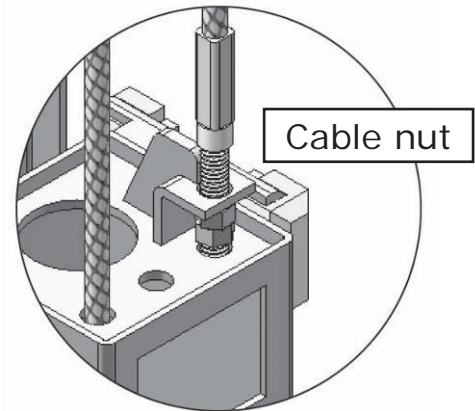

Fig. 42
1. Adjust the equalizing cables (See Fig. 42)